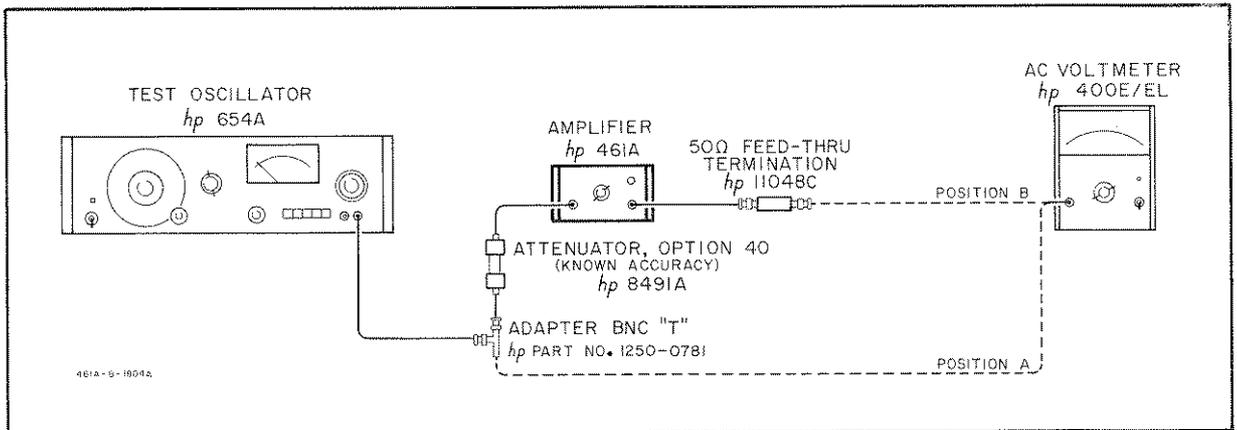

Figure 5-1. Gain Check Setup
- a. Connect the test equipment as in Figure 5-1; connect the oscillator with the 50 ohm load to the ac voltmeter (position A).
- c. Connect the ac voltmeter as in Figure 5-1, position B, using the 40 dB attenuator and the 40 dB GAIN range of the 461A.
- e. (461A only). With the test setup as in Figure 5-1, position B, slowly increase the
- a. Connect the 461A as in Figure 5-1, position B using the 40 dB attenuator and the 461A on the 40 dB GAIN range.